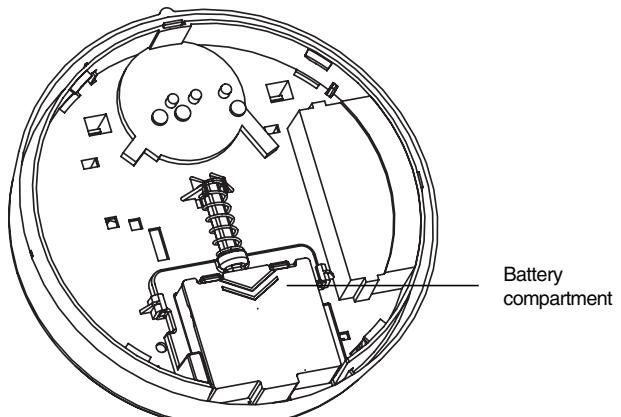

Figure 2. Battery Compartment
- Slide the battery compartment cover away from the unit to unsnap it and lift it off. See Figure 2.
2. Slide the battery compartment cover away from the smoke alarm to unsnap it and lift it off. See Figure 2.